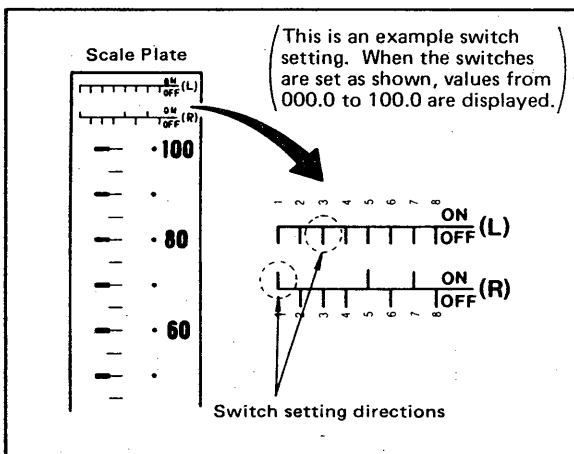

Figure 6-7. DIP Switch Setting Directions Printed on Scale Plate.
- (3) The DIP switch setting directions are printed on the scale plate. (See Figure 6-7.)
- (4) Set the DIP switches according to the indicated setting directions so the digital display conforms to the scale graduation on the scale plate.